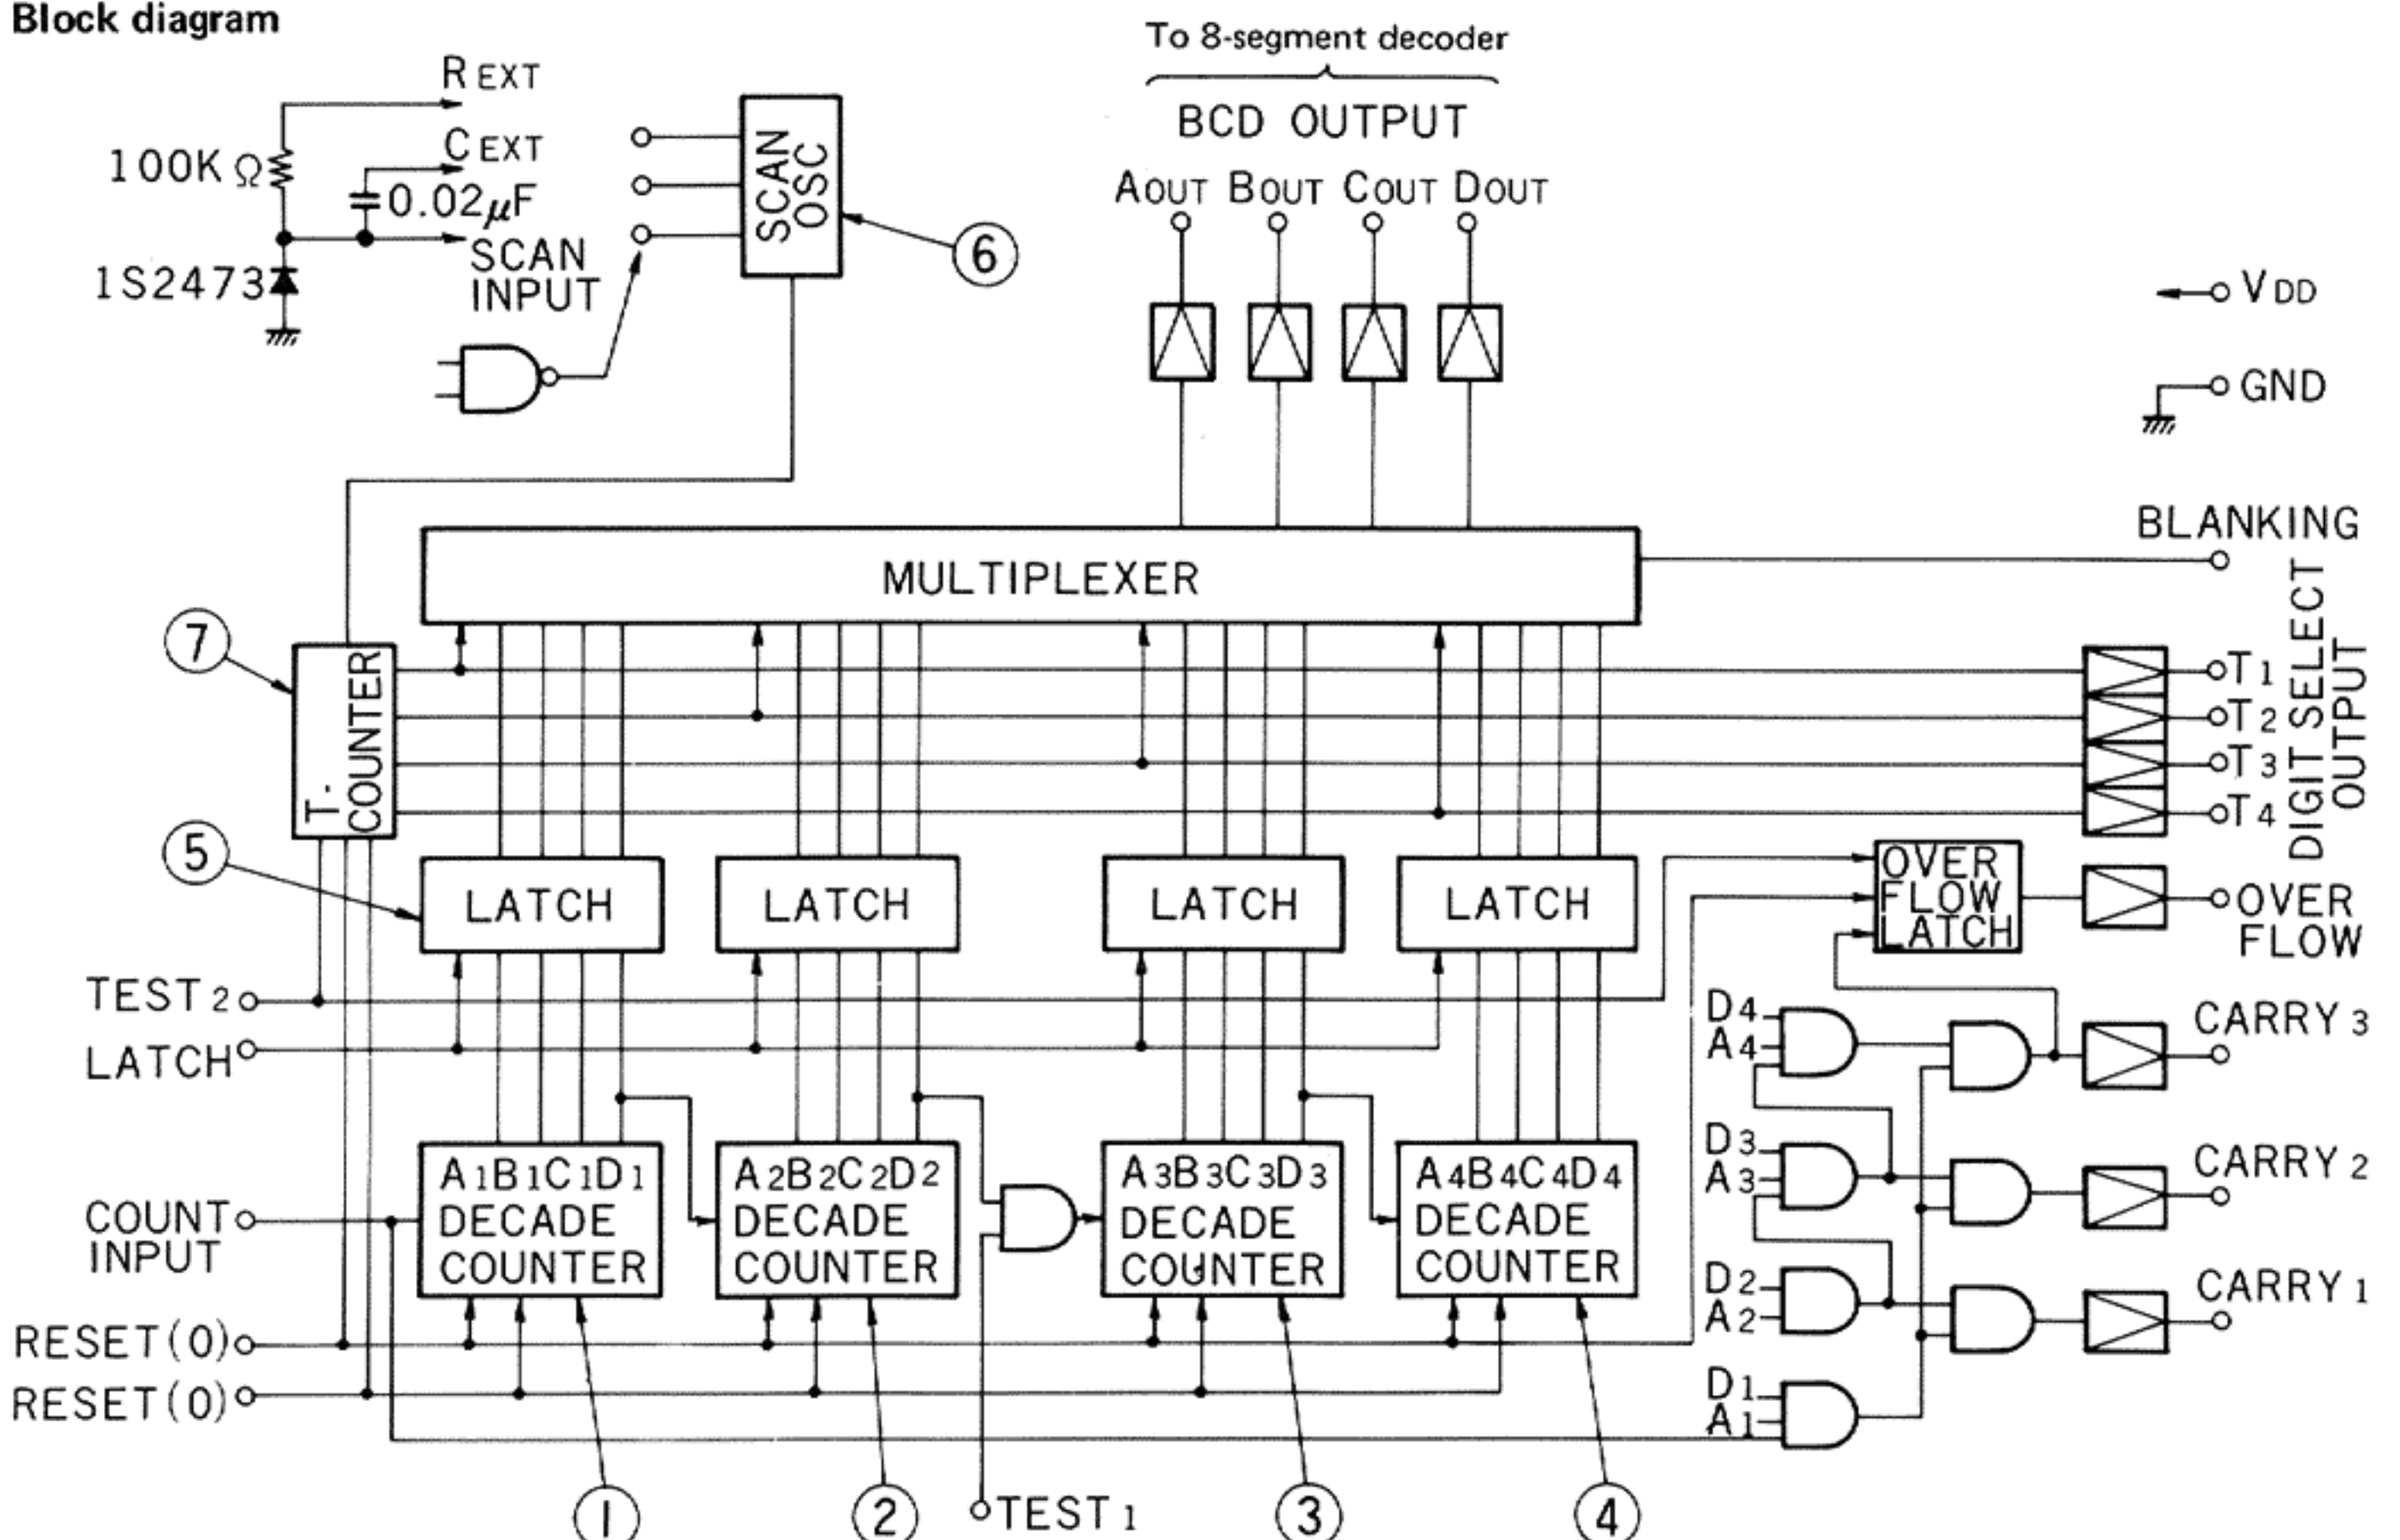

Fig. 17
The output from each Decade Counter is input to one of the four "Latches" ⑤ in Figure 17, ANDed with a plus latch pulse input, then output to the Multiplexer as shown in Figure 18 (from A to B).
If the latch signal is High or plus, the Latch Circuit passes the BCD outputs from the Decade Counters without latching them. SCAN OSC ⑥ in Figure 17 is a 2kHz basic oscillator which permits the BCD outputs from the Dynamic Counter to be indicated in sequence. This causes T. Counter ⑦ in Figure 17 to produce T1 through T4 square wave Digit Select Outputs (see TC5001 Timing Chart) to drive Decade Counter respective outputs in the proper sequence.